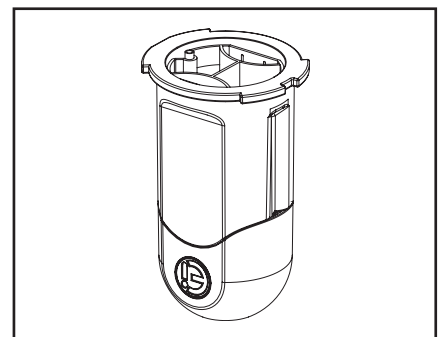

Figure 27. Invert the Cell
6. Refit the cap on the cell and invert (see Figure 27).
7. With protective glasses and gloves on, add one (1) part acid to ten (10) parts water and mix.